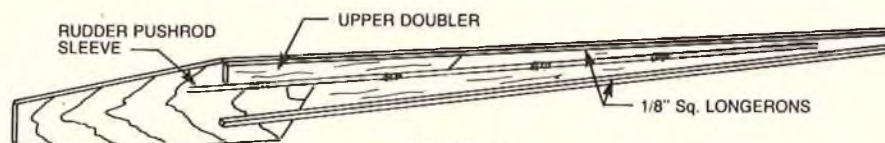

FIGURE 2
Step 2. Glue 1/8" sq. balsa longerons in place (see Fig. 2).
Step 3. Add 1/8" balsa upper doubler (see Fig. 2).
Step 4. Wrap pushrod sleeve with one wrap of masking tape at approximately 4" spacings and epoxy sleeve to fuselage. Be sure to make a left and right hand side (see Fig. 2).